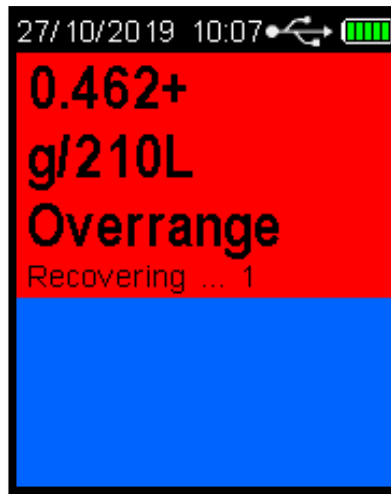

Figure 12 Overrange screen display
The Recovering period is indicated by 'Recovering' shown on the display (Refer Figure 12). Refer to Section 9 for instructions on how to change the Setpoint values.
- Overrange result is if a result above 0.462g/210L is obtained the below screen will appear (Figure 12)